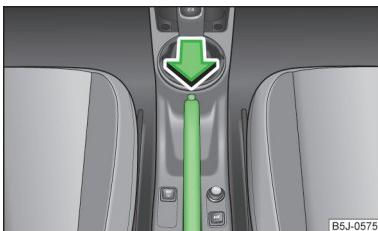

Fig. 103
▶ Pull the handbrake lever up slightly and at the same time push in the locking button » Fig. 103.